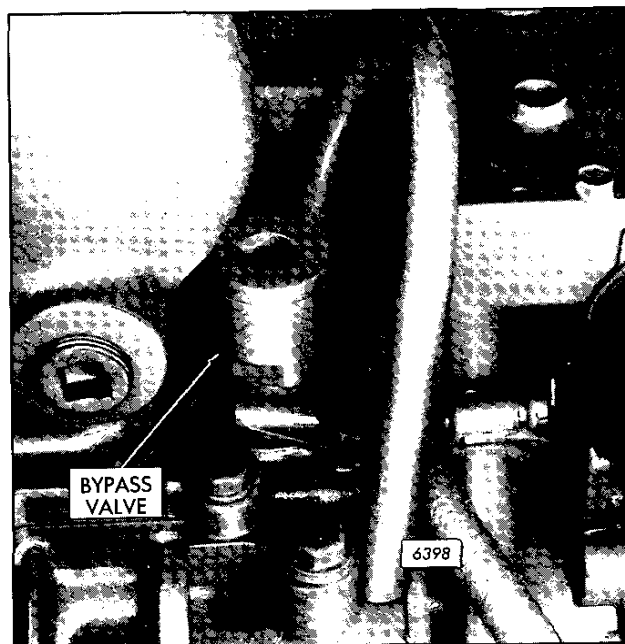

Fig. 23 – Typical Bypass Blower Valve Installation
- d. Secure the bypass valve to the blower with clamps and bolts (Fig. 23).